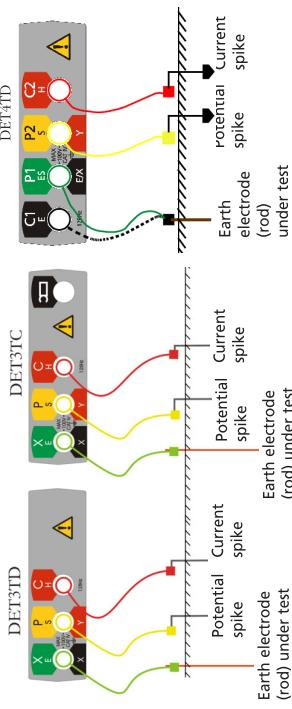

Figure 5: Connections for measuring three-terminal ground rod resistance
- With the selector switch in the 'OFF' position, connect the instrument as shown in Figure 5.